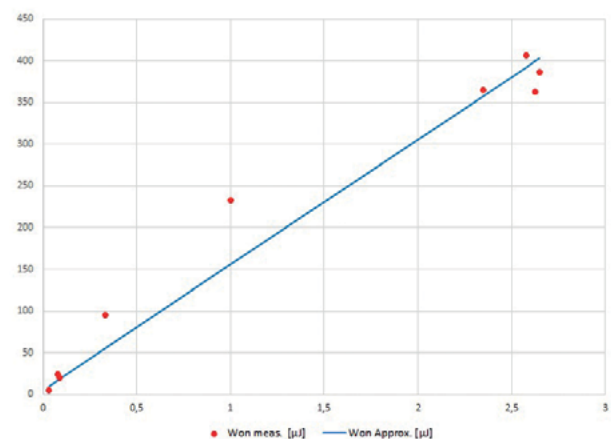

Figure 6: Measured W_{on} (red dots) and their approximation according to equation (6) (blue line) as function of the measured Q_{rr}
The approximation equation (6) gives a linear dependency of W_{on} from Q_{rr} but an interpolation of the measured values in figure 6 would have a bended curvature. A possible explanation could be that manufacturing measures to reduce Q_{rr} by shortening the carrier lifetime gives the diode a more snappy reverse recovery behaviour and therefore a changed ratio of t_s / t_{rr} .